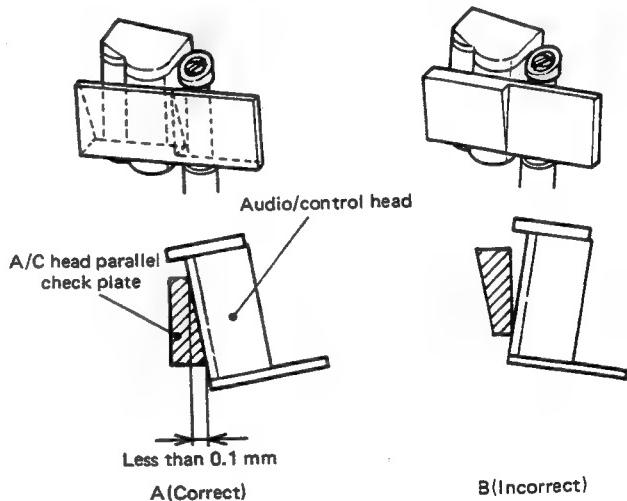

Fig. 2-55
- Put the A/C head parallel check plate against the audio/control head as shown in Fig. 2-55 and confirm that the inclination is less than 0.1 mm as shown by A.